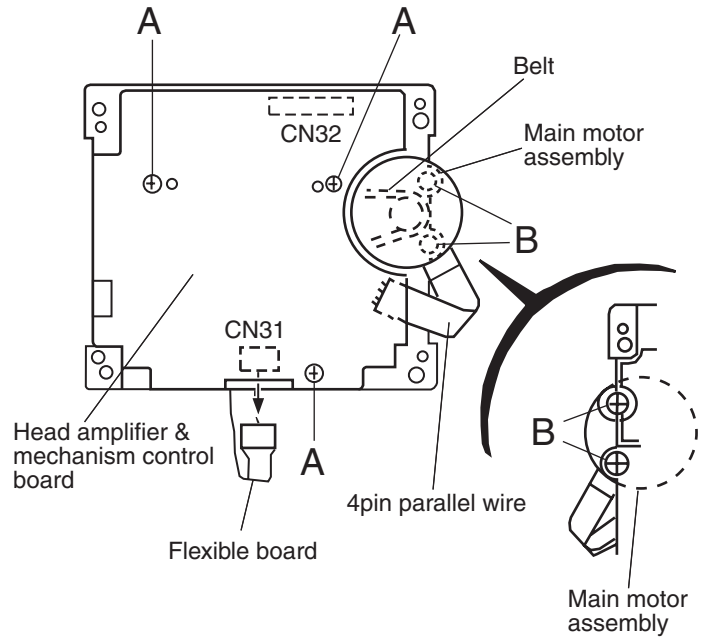

Fig. 4
Removing the head amplifier & mechanism control board (See Fig. 4)
Removing the main motor assembly (See Fig.4 ~ 6)
1. Remove the two screws **B** retaining the main motor assembly (See Fig. 4 and 4a).